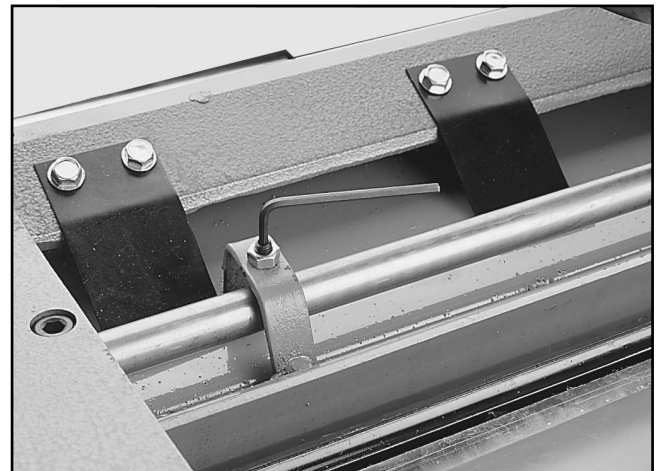

Figure 22. Chip breaker height adjustment.
6. If an adjustment is necessary, loosen the locknuts and turn the setscrews. **See Figure 22.** Stop turning when the bottom of the chip breaker just touches the gauge block.